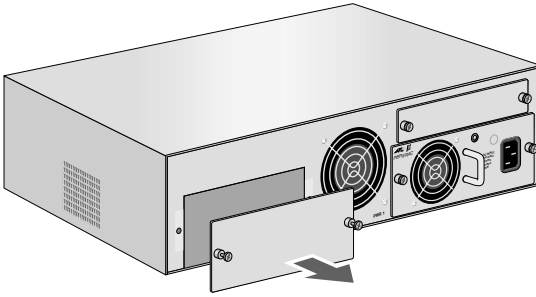

Figure 19 Removing the Optional Power Supply Blank Faceplate
1. Remove the PWR 2 blank faceplate from the back of the chassis by loosening the two thumbscrews, as shown in Figure 19.